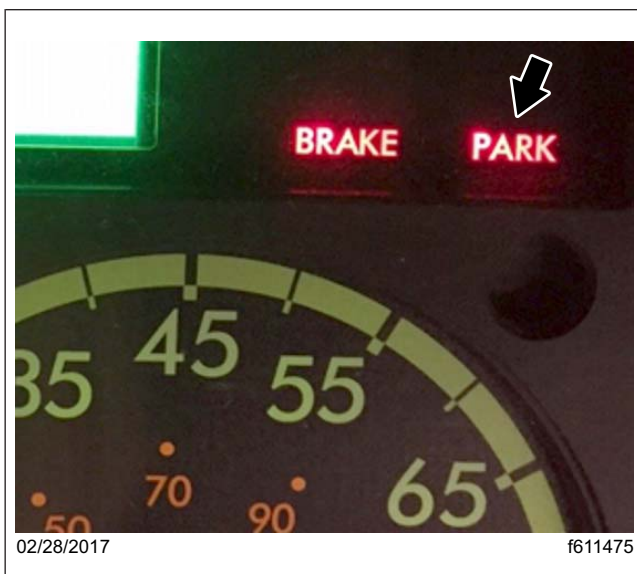
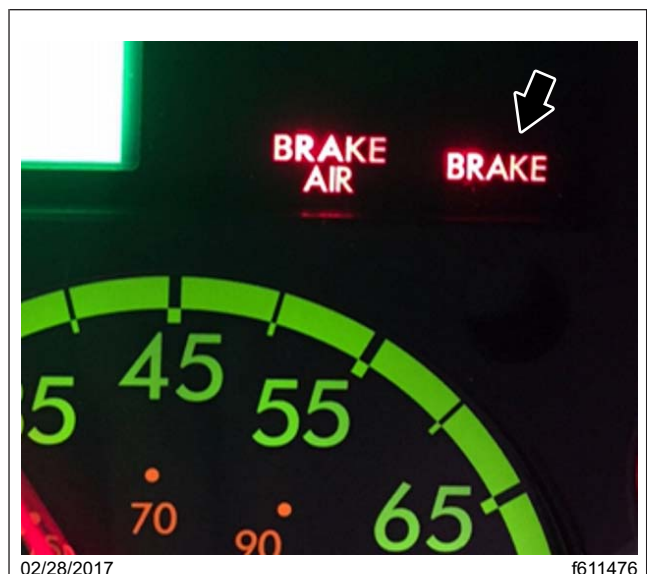

Fig. 1, A "Park" Telltale - Replace ICU3S
Fig. 2, A "Brake" Telltale is OK - No Replacement
3. During the bulb check at key-on, inspect the telltales on the ICU3S (affected telltales will be illuminated for three seconds). See Fig. 1 and Fig. 2.